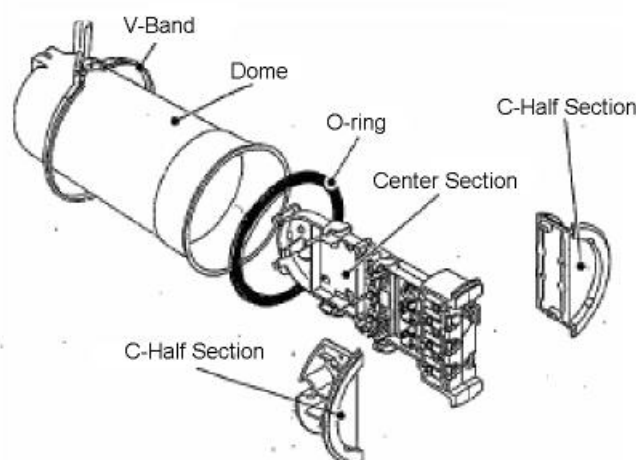

Figure 1 - Components of the LG-150 Closure
1.01 The LG 150 Sealed Fiber Optic Splice Closure provides a unique, flexible fiber splicing system for Fiber-in-the-Loop or distribution splicing. Typical types of cables that can be used in this closure are: central core shielded, central core dielectric, loose tube shielded, loose tube dielectric, ribbon shielded, ribbon dielectric. Also, the closure incorporated a unique cable clamp design that secures the cable and allows the dome and C-Half sections to be removed with out disturbing previously installed cables. The LG-150 consists of five (5) main components. Refer to **Figure 1**.